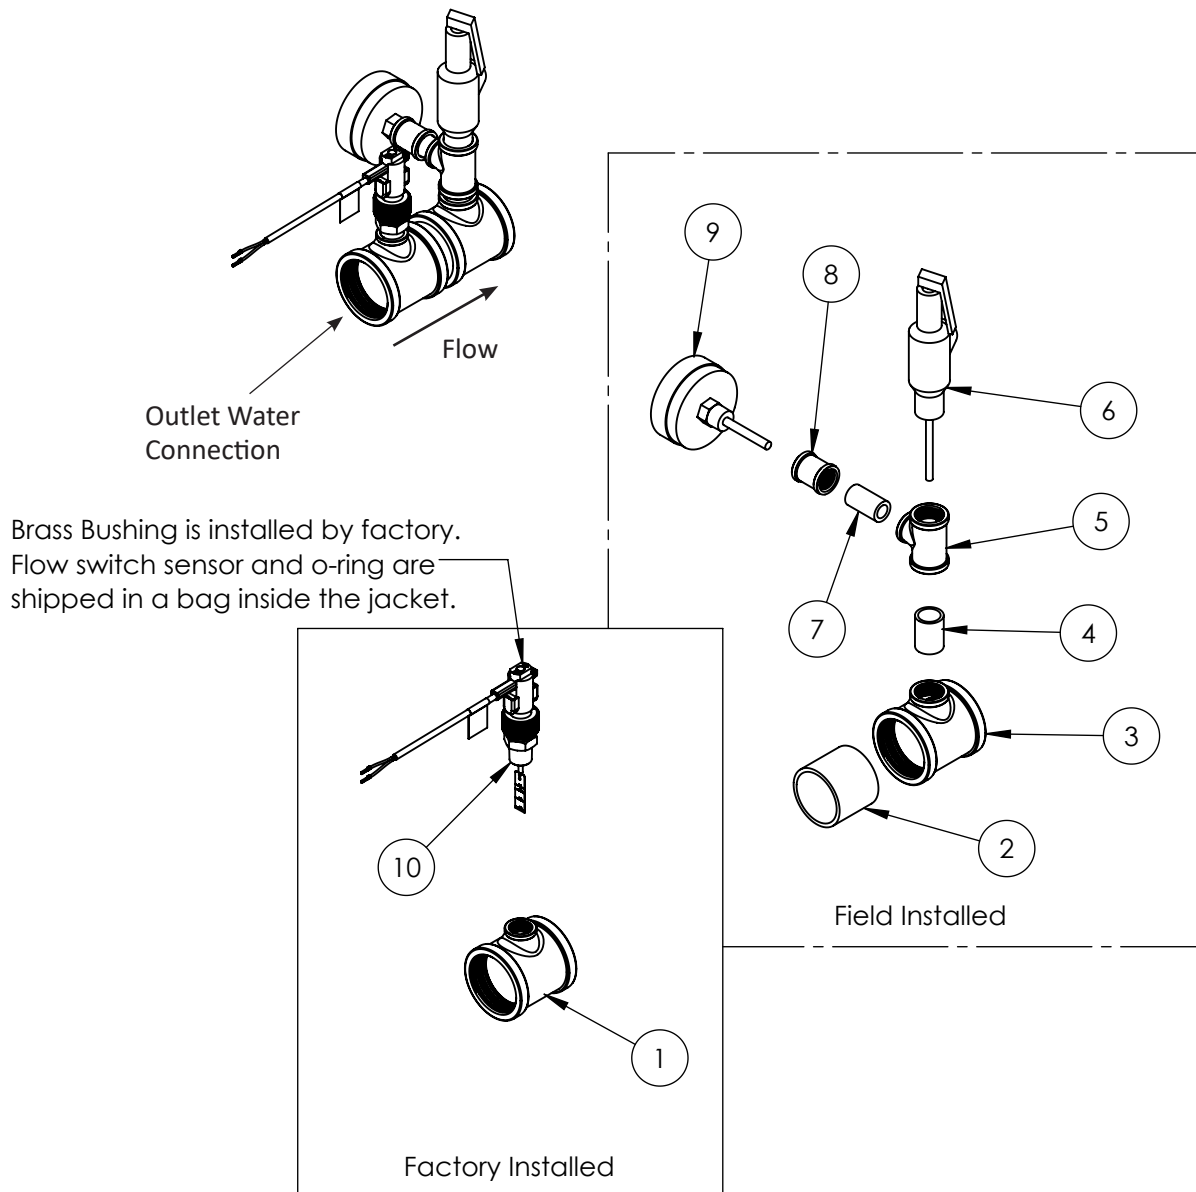

Figure 15: Relief Valve Package Assembly
2. The hot water supply line shall be connected to the outlet piping of the appliance shown in Figure 15.
1. The relief valve, T&P gauge, and required fittings ship loose with the appliance. These parts must be installed to the outlet as shown in Figure 15.
- a. This appliance is shipped with a temperature and pressure (T&P) relief valve complying with the standard for relief valves for hot water supply systems ANSI Z21.22 • CSA 4.4. Must be field installed as shown in Figure 15.